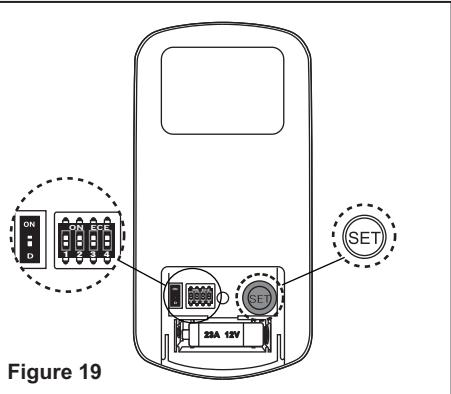

Figure 19
- a) Select desired frequency from the transmitter. The dip switches can be set to 16 different combinations. (Fig. 19)
b) From the back of the transmitter, with the fan's power off, restore power to the fan. Press and hold "SET" button for about 5 seconds and release. If optional light kit is installed, the light kit will flash twice and the signal light on the hand held transmitter will come on when the button is pressed. The fan has completed the pairing process with the remote control and is ready for use. (Fig. 19)
1. The "ON" selection is the light dimmable selection and is to be used with all bulbs except for CFL bulbs. The "D" selection is the light ON only (no dimming function) and is to be used with CFL bulbs as CFL bulbs in most cases cannot be used with dimming controllers. (Fig. 19)